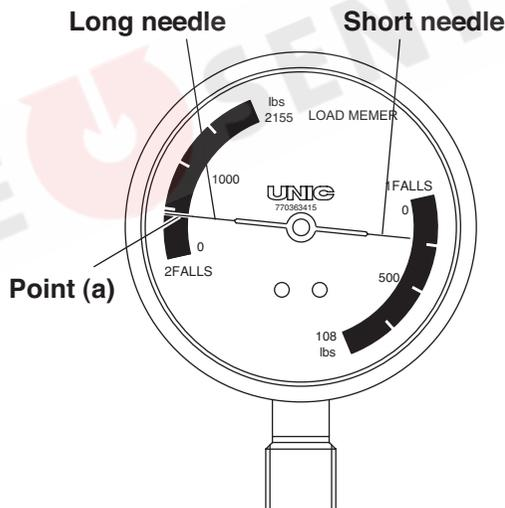

Fig. 1 Load meter
- ③ Taking an example of the case where a cargo is hoisted up by using 2-rope hooking system. Read the load meter for the point (a) on the scale band of “2FALLS” while a cargo hooked is being lifted up to approximately 12in. above the ground (Fig. 1).